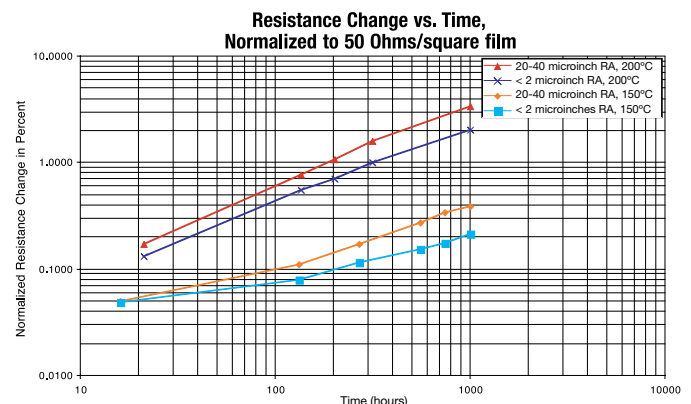

Figure 5: Normalized percent resistance change of Ta2N oven-aged resistors
Figure 5 shows the average measured change in resistance of four groups of ten each Ta2N thin-film resistors placed in an oven – no applied power to
The top curve shows the raw data; average resistance change was about 4.9%. The lower curve shows the data normalized to a 50-ohms/square resistivity, i.e., the resistance change was scaled by the ratio of actual film resistivity, 72 ohms/square, to 50 ohms/square using equation (1). Since the substrate used had an average surface roughness of 2040 microinches, the lower curve should be comparable to the 200°C oven-aged result for this substrate shown in **Figure 5**.